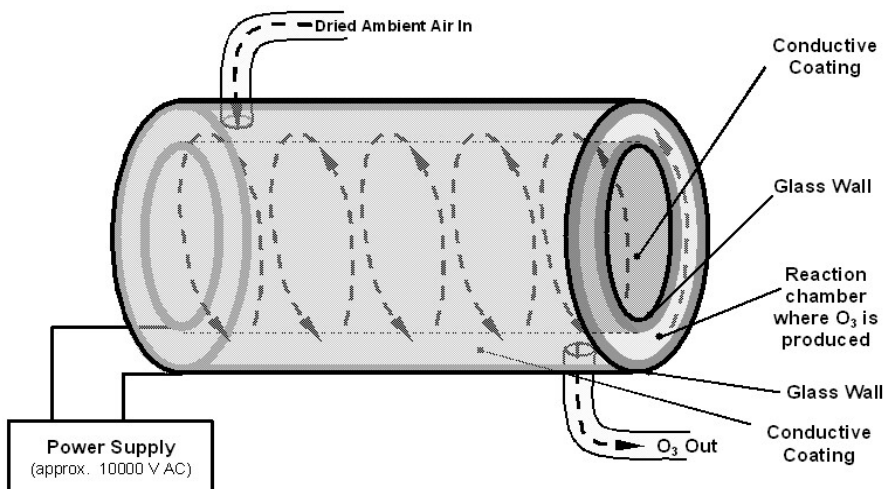

Figure 10-11: O₃ Generator Principle
The T700H uses a dual-dielectric, Corona Discharge (CD) tube for creating its O₃, which is capable of producing high concentrations of ozone efficiently and with very little excess heat (see Figure 10-11). The primary component of the generator is a glass tube with hollow walls of which the outermost and innermost surfaces are coated with electrically conductive material.